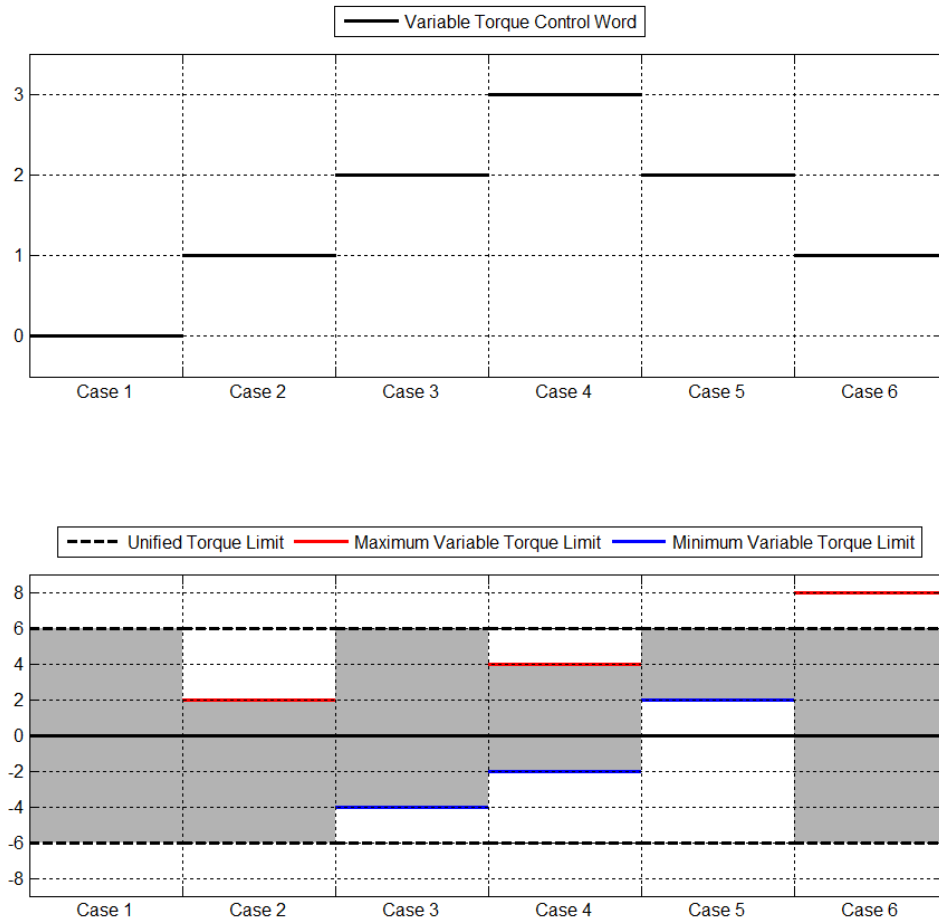

Figure 10-25 Variable Torque Control
*Figure 10-25* below shows how different configurations of the Variable Torque Control Word influence the actual torque limits that are applied. For the purpose of discussion, we define a Unified Torque Limit as the smallest current limit that is found from comparing all current limits current configured in the drive (from the above list). This includes the special case of the Peak Torque Producing Current which is actually representing a torque (or force).